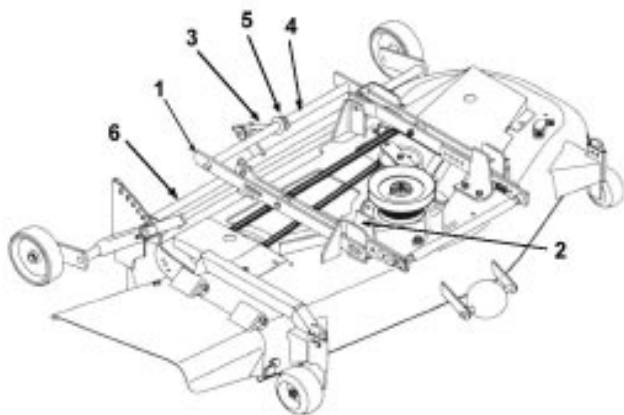

Figure 6
5. Remove the leveler shaft from leveler bar by removing pins & washers. Remove the locking collars (fig. 6).
6. Remove the eye bolt and disconnect the trunnion (fig. 6).
7. Re-connect the trunnion and eye bolt on the opposite side of flat bar which is welded to the gauge wheel support (fig. 6).
8. Reinstall the leveler shaft by turning it 180° and inserting it through the eye bolt, through the locking collar then insert both ends of shaft into the leveler bars. Secure with pin and washer as originally installed (fig. 6).
9. Straighten the eye bolt to be perpendicular to the shaft, then slide locking collar against eye bolt and secure in place (fig. 6).